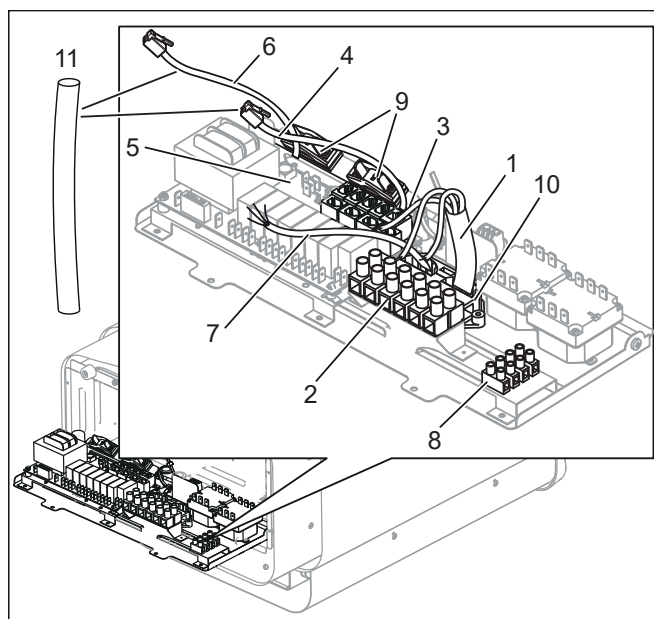
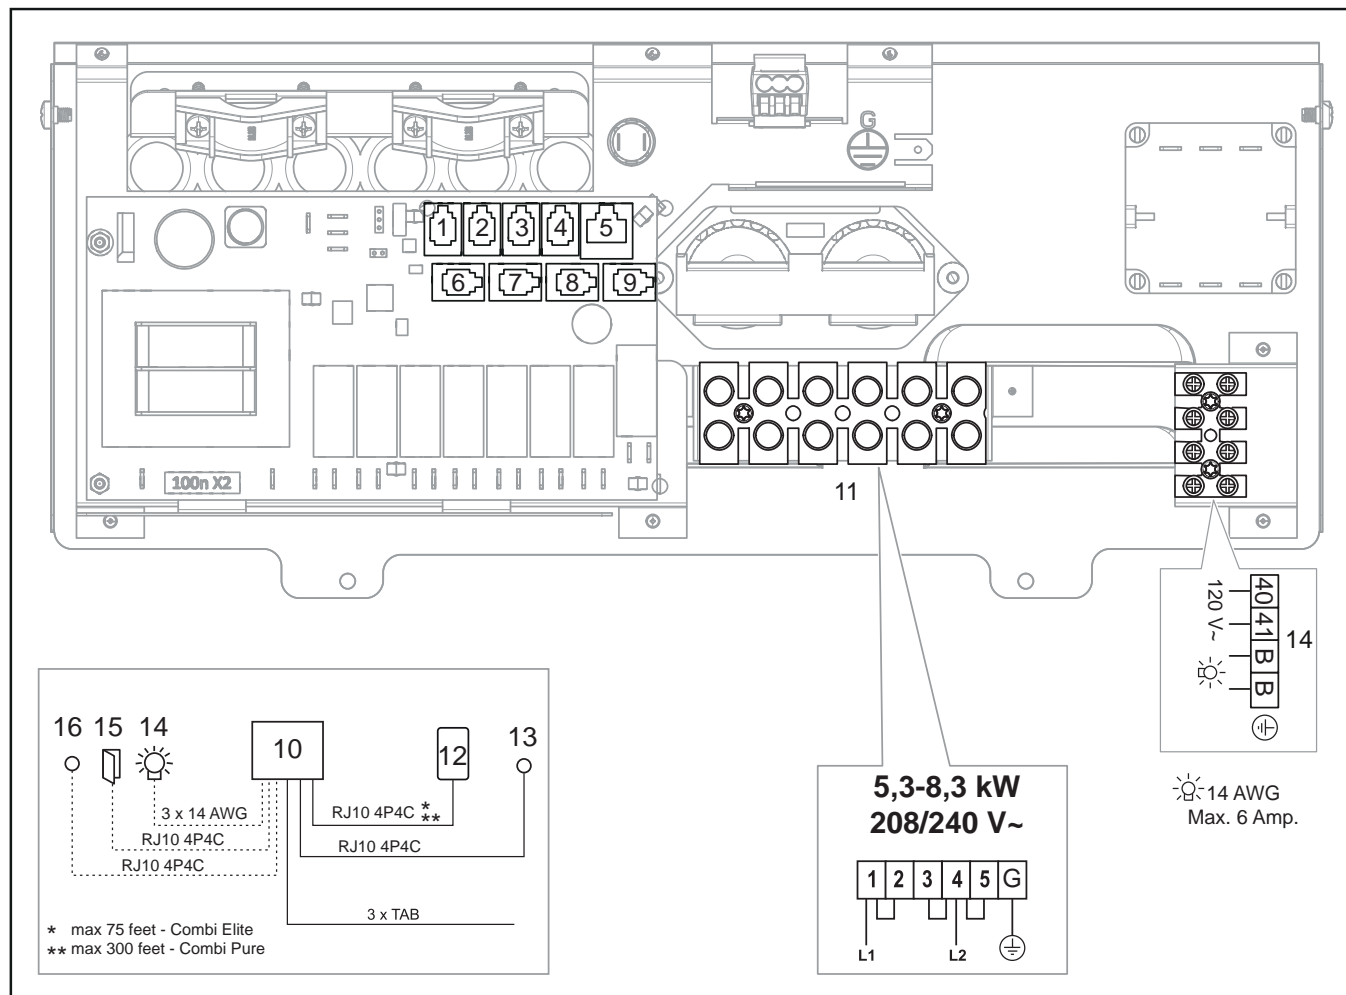

Figure 11: Circuit board
Figure 19: Wiring diagram
4. Connect the main supply electrical cable (1) to the terminal (2) (see Figure 11) according to the wiring diagram (see the Connection/wiring diagram section, page 9).
5. Run the cables for the control panel and the temperature sensor through the cable grommets (3). Connect the control panel cable (4) to one of the four RS485 contacts (positions 6-9) (see Figure 11) according to the wiring diagram (see the Connection/wiring diagram section, page 9 fig. 19).
6. Connect the humidity- and temperature sensors cable (6) to one of the four RS485 contacts (positions 6-9) (5) according to the wiring diagram (see the Connection/wiring diagram section, page 9 fig. 19).
7. Connect the light cable (if relevant) (7), see Figure 11, to the terminal (8) according to the wiring diagram Figure 19.
Contact Tylö Customer Service before connecting to voltages or numbers of phases that are not listed in the wiring diagram Figure 19.
1. Modular plug (RJ10, see Fig 19)